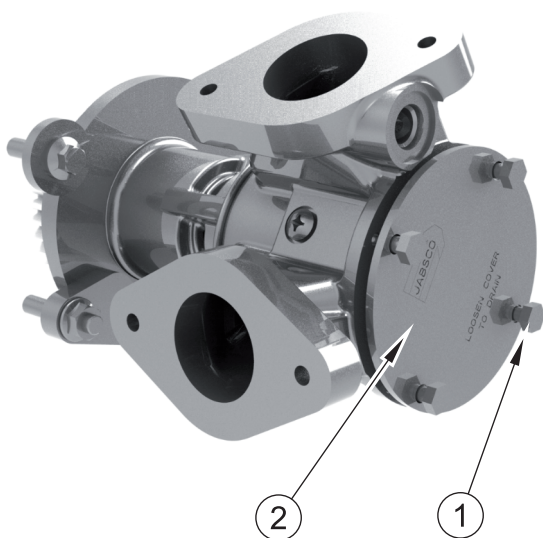

Figure 8
3. Remove the auxiliary pump endplate (figure 8 item 2) by unscrewing the 4 retaining bolts (figure 8 item 1) and allow the water to drain into a suitable container.